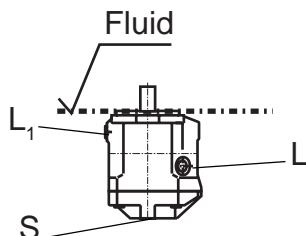

Fig. 1
- a) If the minimum fluid level is equal to or above the pump mounting surface leave ports "L", "L₁" and "S" open (see Fig.1).